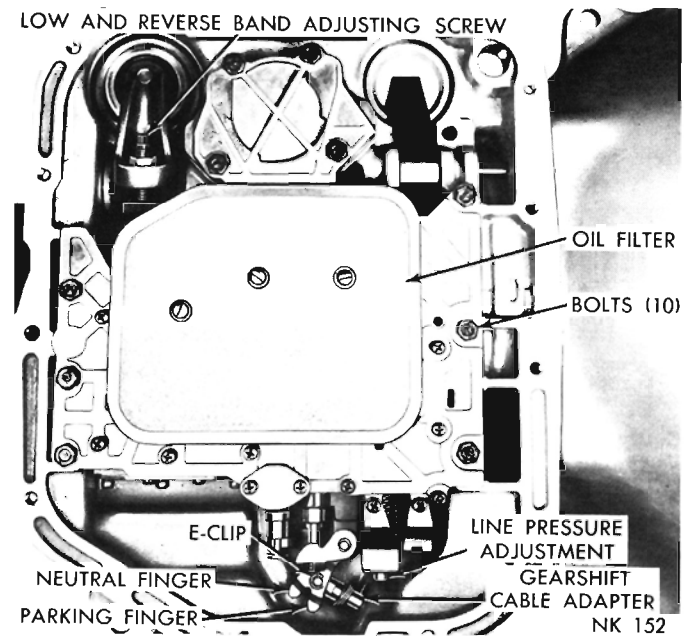

Fig. 30—Bottom View of Transmission (Pan Removed)
(1) Raise the vehicle, drain the transmission fluid and remove the oil pan.
(2) Loosen the adjusting screw lock nut and back off nut approximately five turns (Fig. 30). Test the adjusting screw for free turning in the lever.
(3) Using wrench, Tool C-3380 with adapter C-3705, tighten the band adjusting screw 47 to 50 inch-pounds torque. If adapter C-3705 is not used, tighten the adjusting screw to 72 inch-pounds which is the true torque.